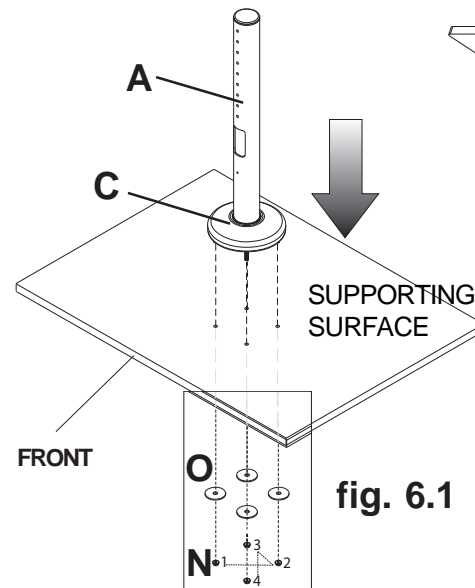
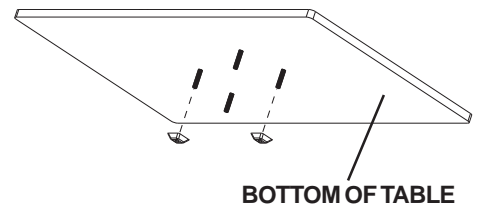

fig. 6.1
fig. 6.2
6 Line up base assembly (step 5), through supporting surface. Using four fender washers (O) and four lock nuts (N) tighten in numbered pattern as shown in Figure 6.1. At minimum 1/4 - 20 locknuts (N) should be flush with bottom of threaded rods (L or M) and no less than. For added security replace two of the washers and locknuts with slope nuts. Hand tighten slope nuts (R) onto two of the thread rods (L or M) till snug against bottom of table as shown in Figure 6.2. Thread another slope nut (R) upside-down, about a 3/4 turn from first slope nut (R) as shown in Detail 1. Insert a wrench between both slope nuts (R) and tighten. **NOTE:** Avoid jamming both slope nuts (R) together, doing so may make it difficult to remove slope nut used for tightening. After slope nut is secure remove bottom slope nut.